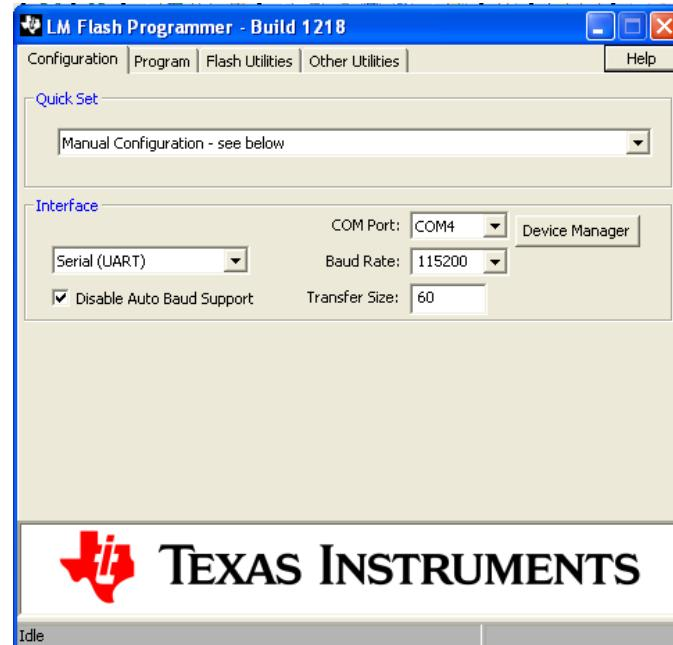

Figure 11.24 LM Flash Programmer (Configuration Tab)
- After clicking on Run, a window similar to that shown in Figure 11.24 should display on the screen. This is the LM Flash Programmer.